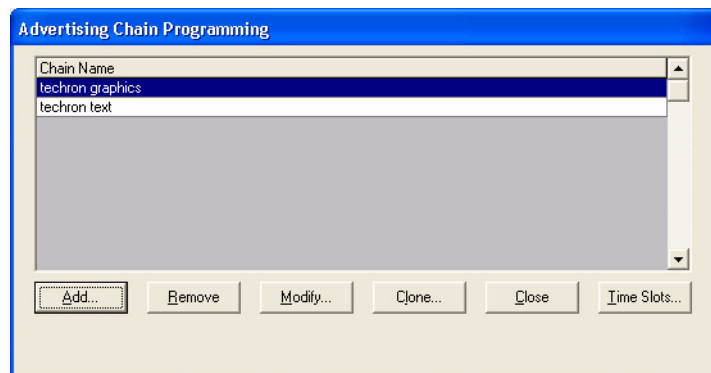
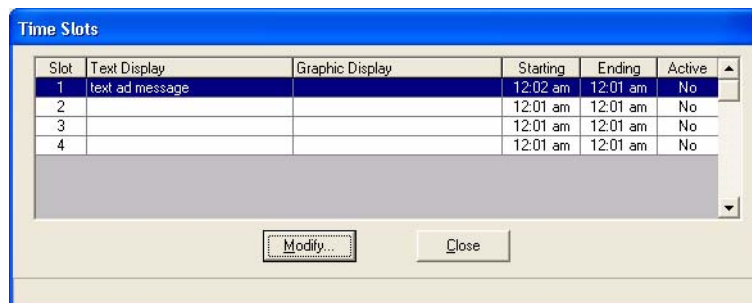

Figure 7-38 Advertising Chain Programming Window
Figure 7-45 Time Slots Window
Select **Notebook Editor** from the Customer Activated Terminal window and the Advertising Chain Programming window appears. See Figure 7-38.
Advertising Chain Programming - This programming selection allows you to Add, Remove, Modify and assign a Time Slot for messages to run at the CATs. The Advertising Chain Programming window also allows you to manage the creation, configuration and selection of various advertising messages for display at the CAT. See Figure 7-38.
3. Select **Time Slots** from the Advertising Chain Programming window to program the times that specific advertising chains will be displayed. See Figure 7-38 and Figure 7-45.